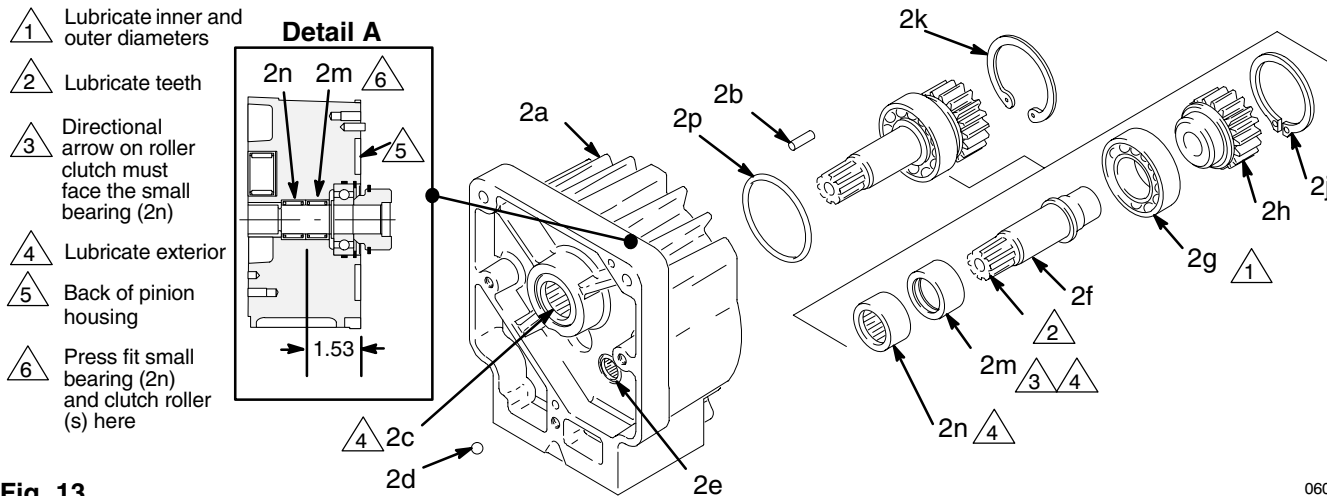

Fig. 13
3. Remove the two bottom screws (59) and lockwashers (16) first, then remove the top three screws (59) and lockwashers (16).
4. Pull the pinion housing (2) away from the clutch housing (1). The armature (51b) will come with it.
5. Pull the armature (51b) off the hub (2h\*\*) of the pinion housing. Also see Fig. 13.
6. If replacing the complete pinion housing assembly (2), brush G-n lubricant (supplied) on the pinion shaft teeth. Then recoat the pinion shaft teeth with bearing grease (supplied). Pack the remaining bearing grease in the bottom part of the pinion housing. Use 0.08 pint of the bearing grease.
7. Install new gasket (64) (supplied).
## Repairing the Pinion (Fig. 13)
5. Apply lubricant to the parts as shown in Fig. 13.
- Small bearing (2n) and then the roller clutch (2m), with the directional arrow facing the small bearing, into the rear of the housing (2a). See Detail A in Fig. 13.
Examine the splined hub (2h\*\*, Fig. 13, page 24) for wear. Replace as needed. Follow the Pinion Housing instructions, page 24.